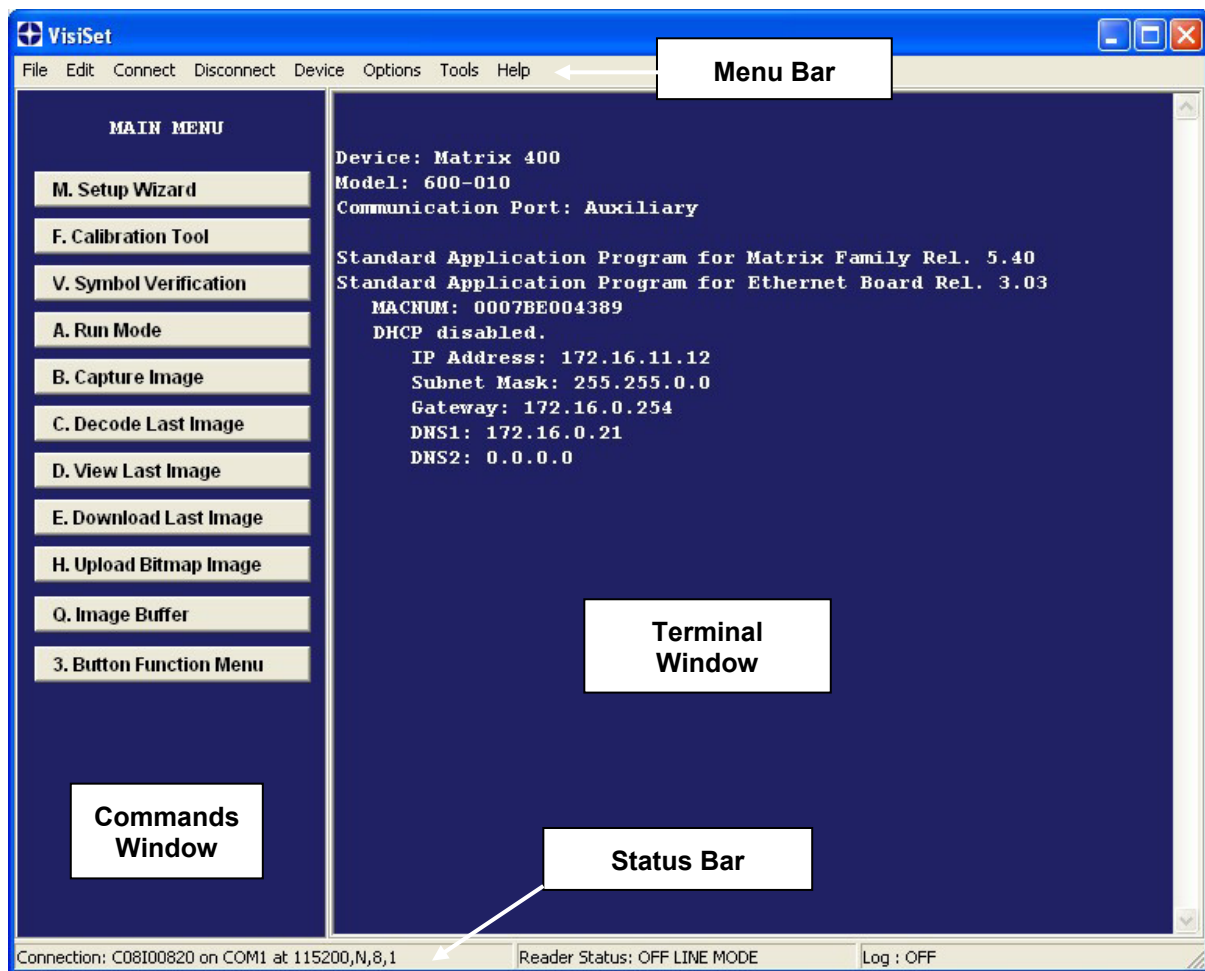

Figure 113 - Main Window
Upon connection, Matrix 400™ exits Run Mode and displays the Main Menu on VisiSet™ with all the commands necessary to monitor your reader's performance. You can select these commands using the mouse or by pressing the key corresponding to the letter shown on the button. See Figure 113.
The **Options** item from the VisiSet™ menu (see Figure 113) presents a window allowing you to configure:
6. Close the Parameter Setup window and press **Disconnect** on the VisiSet™ menu bar (see Figure 113) or launch **Run** Mode from the VisiSet™ Main menu.